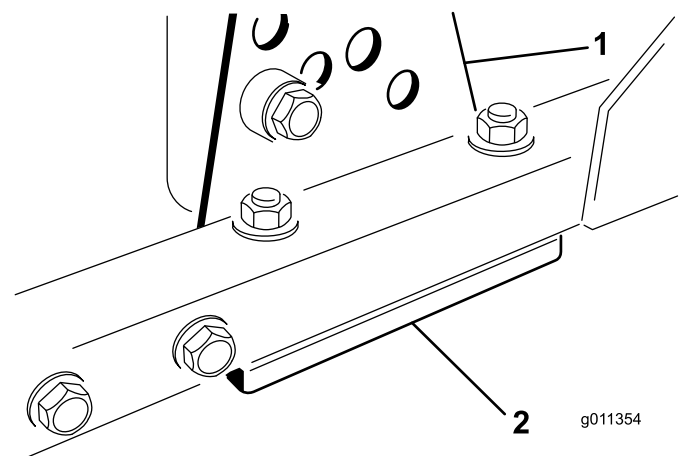

Figure 67
1. Remove the height-of-cut bracket, (front, left, or right) from the deck frame (Figure 67).
2. Adjust 1.5 mm (0.060 inch) shims and/or 0.7 mm (0.030 inch) shim between the deck frame and bracket to achieve the desired height setting (Figure 67).